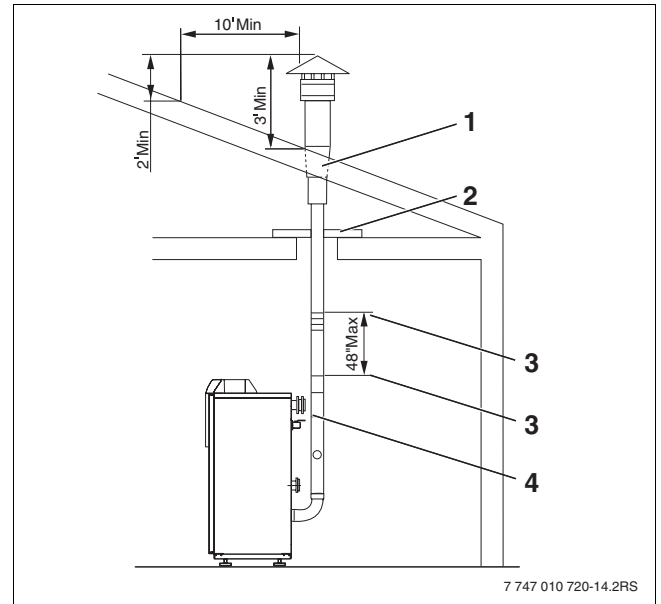
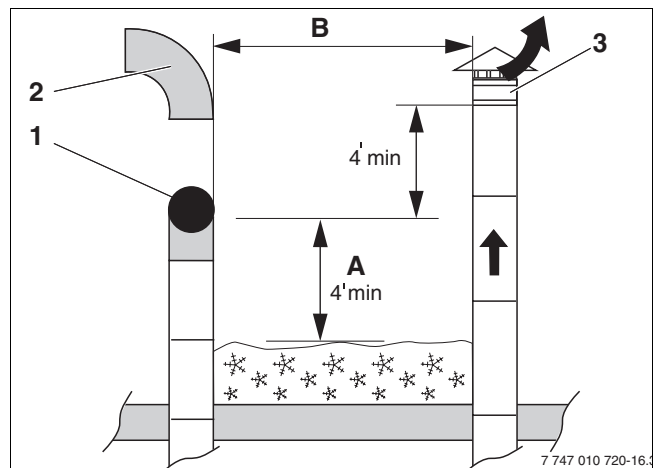

Fig. 14 Vertical flue system
Fig. 17 Design of air pipe roof exit
Observe the clearances for the roof exit above the roof (→ Fig. 14).
If the flue passes through ceilings at any points, fire plates (→ Fig. 14, [2]) must be fitted.
To prevent possible recirculation of flue gas, the flue system installer must take account of effects such as the prevailing wind conditions, any eddy zones, the specifics of the site, etc. in the design of the flue and air supply systems. Buderus can not be held responsible for such potentially deleterious effects on boiler operation. The clearances detailed or illustrated in Fig. 14 and Fig. 17 should be seen as the absolute minimum and may in some circumstances not be adequate for specific installations.
- 1 Flue outlet (type of outlet depends on chosen manufacturer, e.g. 90° elbow or T-piece), observe clearances specified in Fig. 17